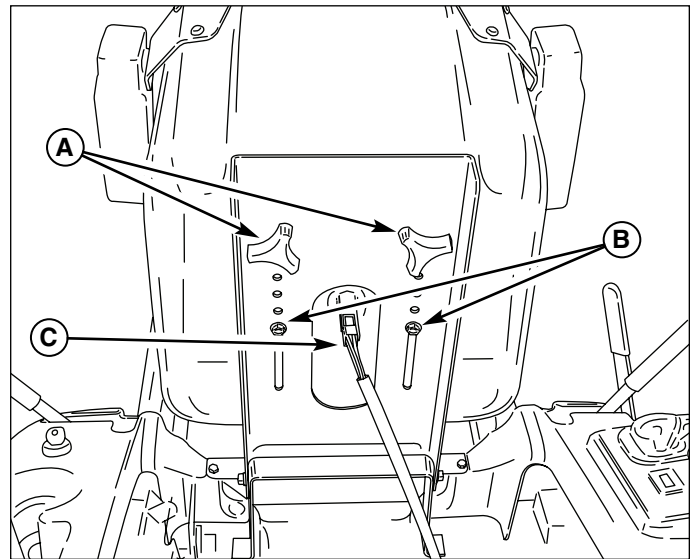

Figure 7. Seat Adjustment
Check that the seat switch wire harness (C, Figure 7) is connected to the seat switch.
See Figure 7. The seat can be adjusted forward and back. Remove the knobs (A), and loosen the support bolts (B). Slide the seat to the desired position, then reinstall the knobs and retighten the bolts.